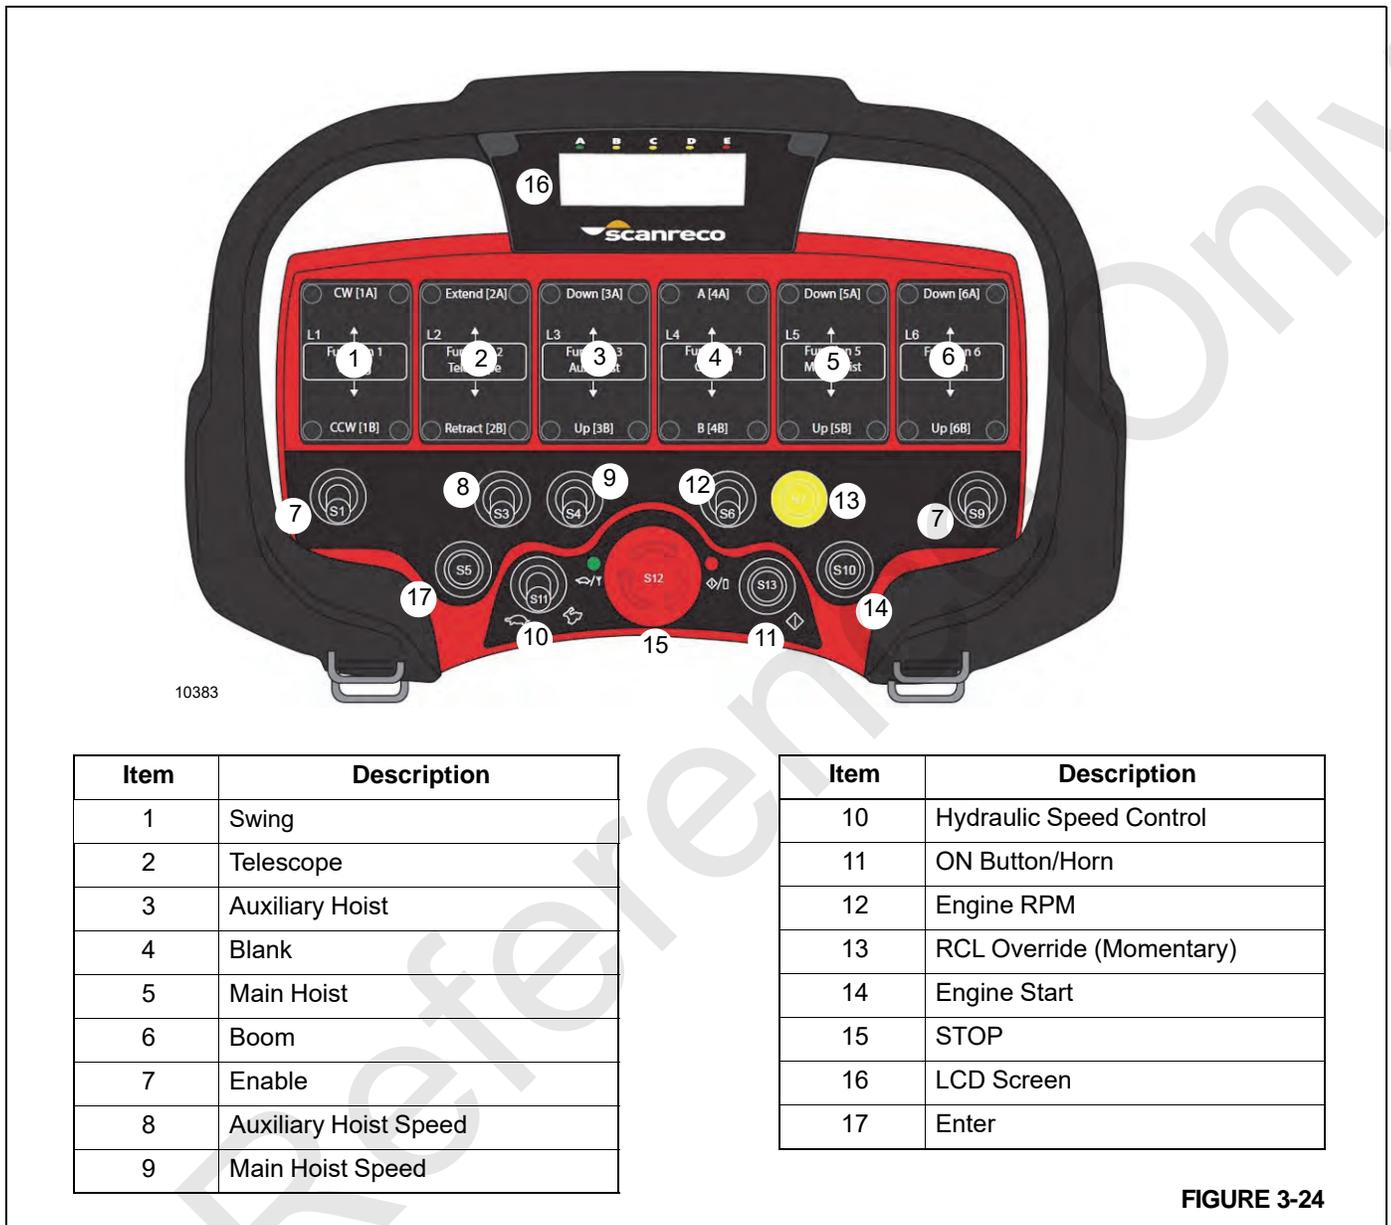

FIGURE 3-24
The optional Crane Remote Control (Figure 3-24) will allow full remote control of the crane. The optional outrigger Remote Control is disabled when using the optional Crane Remote Control.
The LCD Screen (16, Figure 3-24) on the display is used to communicate signal strength and battery level. RCL information is displayed to the operator. The crane remote can be used only when the crane cab ignition key is in the ON position, the crane power switch is OFF, and the remote power switch is ON.
When the battery icon flashes on the remote control display (Figure 3-24) the batteries are low and should be recharged or replaced immediately.
3. To use the remote, the red STOP button (15, Figure 3-24) must be activated to turn on the transmitter.
4. Press the ON/Horn button (2) to activate the remote. The crane horn will sound as confirmation that the remote is now active.
5. Press and hold the Engine Start button (14) to start the crane. The remote can now be used to control the crane.
7. Press the red STOP button (11) when finished with the remote. This will shut off the crane.